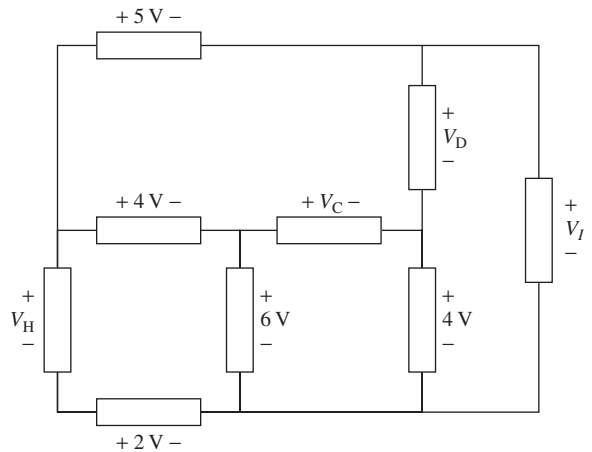

FIGURE P2.35 Circuit for Problem 2.35.
2.35 (H) Find V_C , V_D , V_H , and V_I in Figure P2.35: